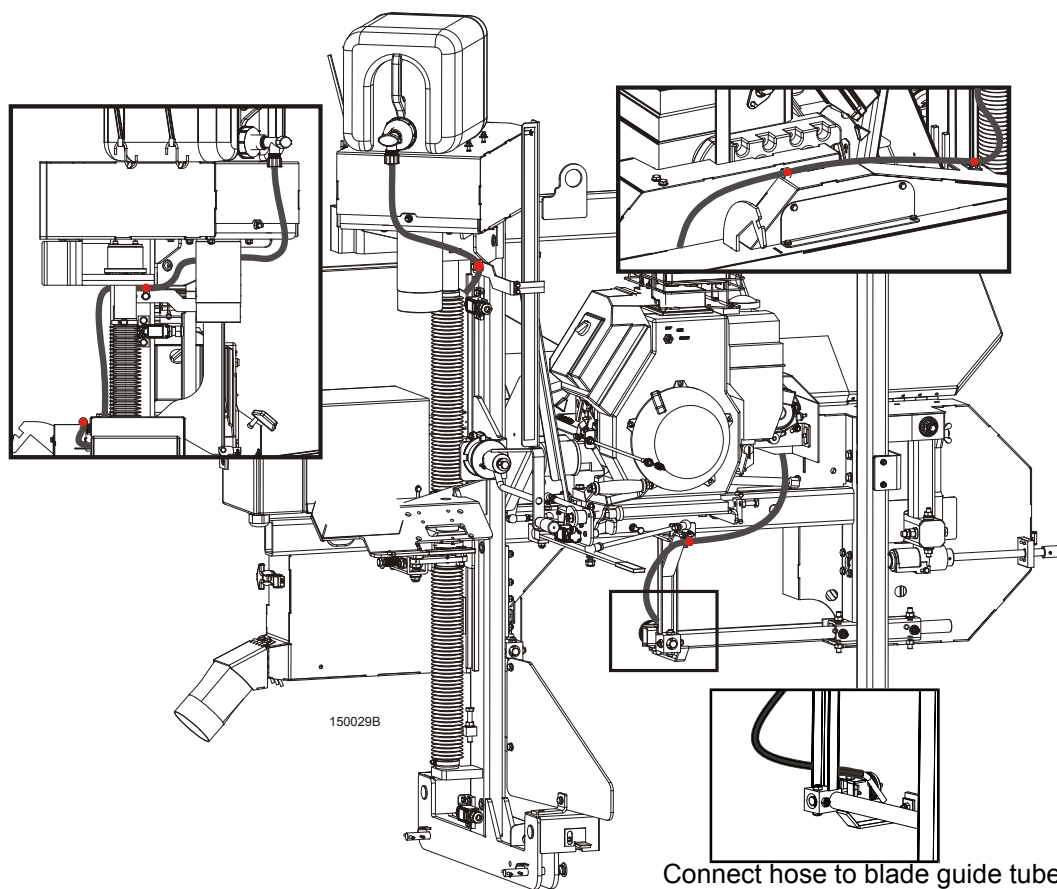

**FIG. 3-5**
**See Figure 3-5.** Install the water bottle bracket at the top of the saw head mast (if the bracket was not already welded to the saw head mast).